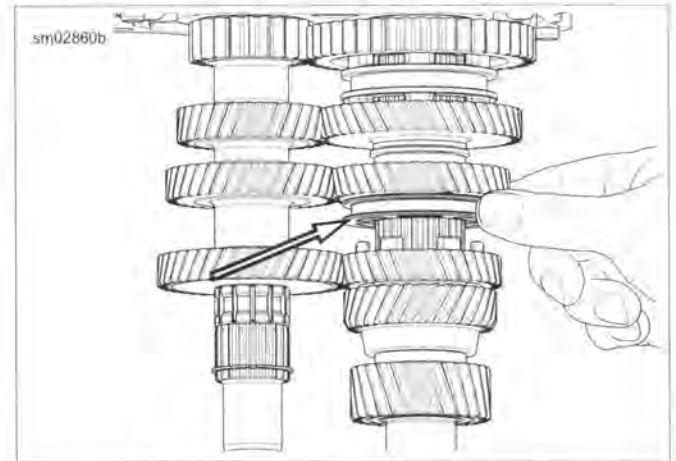

Figure 6-28. Raise and Hold Dog Ring
- See Figure 6-28. Hold dog ring so that it is engaged with countershaft third gear during the press procedure. Otherwise bearing and gear damage is possible.